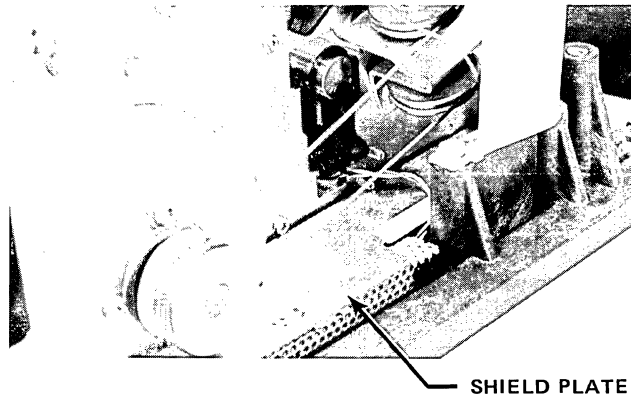

Figure 4-16. RIBBON CABLE SHIELD PLATE
- 7) Loosen the two screws holding the cable shield plate on the left side of the bottom pan (Fig. 4-16). Slide the plate forward and lift it out.